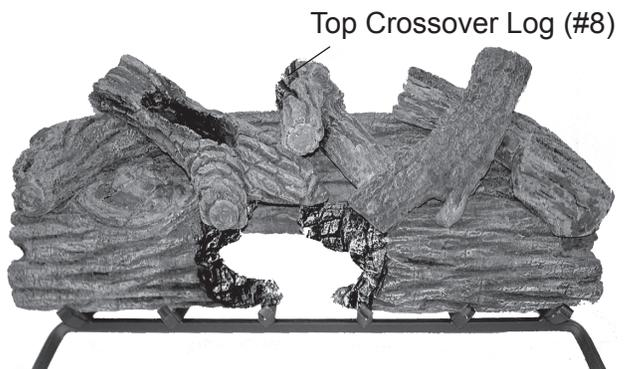

Figure 39 - Installing Top Crossover Log (#8)
- Install top crossover log #8 as shown. See Figure 39.